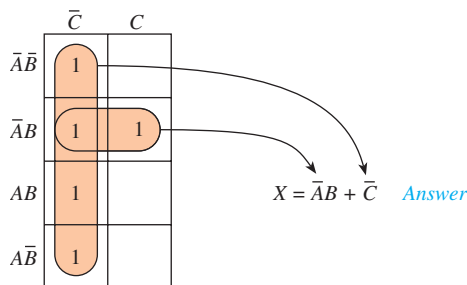

Figure 89 Karnaugh map and final equation for Example 28.
1. Construct an eight-cell K-map (see Figure 89), and fill in a 1 in each cell that corresponds to a term in the original equation. (Notice that $\overline{A} B$ has no C variable in it. Therefore, $\overline{A} B$ is satisfied whether C is HIGH or LOW, so $\overline{A} B$ will fill in two cells: $\overline{A} B C + \overline{A} B \overline{C}$.)